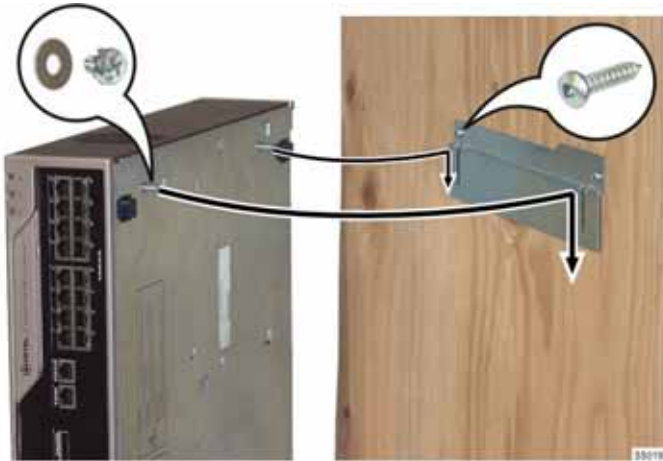

Figure 21: Wall-mounting the CX/CXi
2. Locate the two holes on the bottom of the Controller as shown Figure 21.